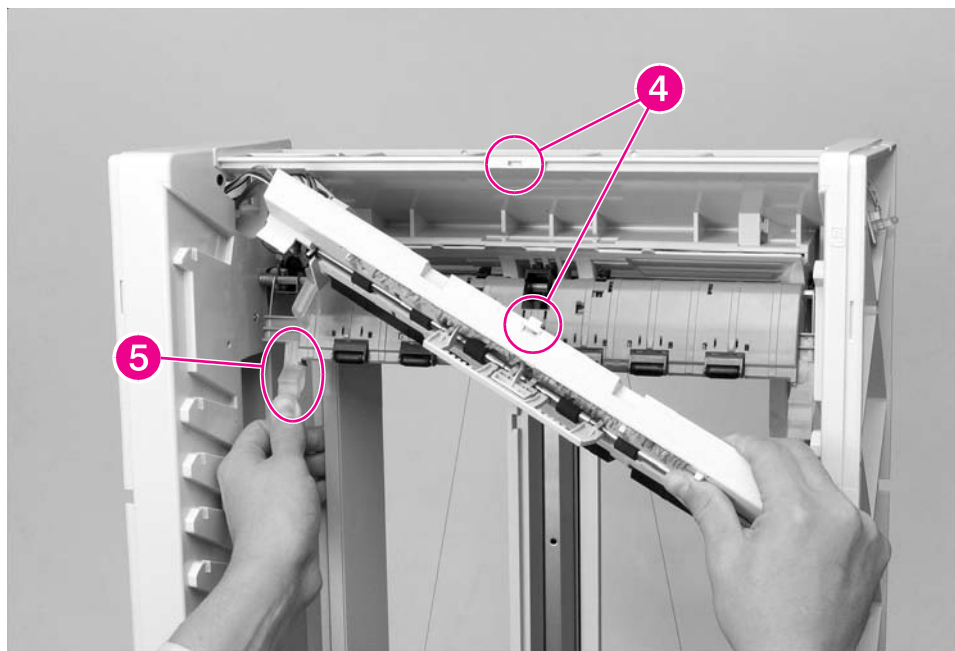

Figure 6-158 8-bin Mailbox Flipper Assembly (3 of 3)
- 6** Using a flat-blade screwdriver, release the plastic retaining tab that secures the Flipper Assembly to the top of the 8-bin Mailbox frame (Figure 6-158, callout 4).
- 7 Hold down the Jam Access Door, and pull out the Flipper Assembly (Figure 6-158, callout 5).